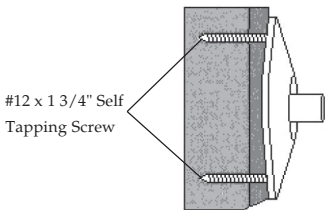

Figure 7
2. Using the wall plate as a template, mark hole positions on mounting surface. For in-wall applications, position the mounting holes in a vertical pattern, see **Figure 7** on the next page.
3. Drill holes through the drywall and into the wood stud using a 1/8" drill bit. These holes should be drilled 1 1/2" deep, see **Figure 7** above.